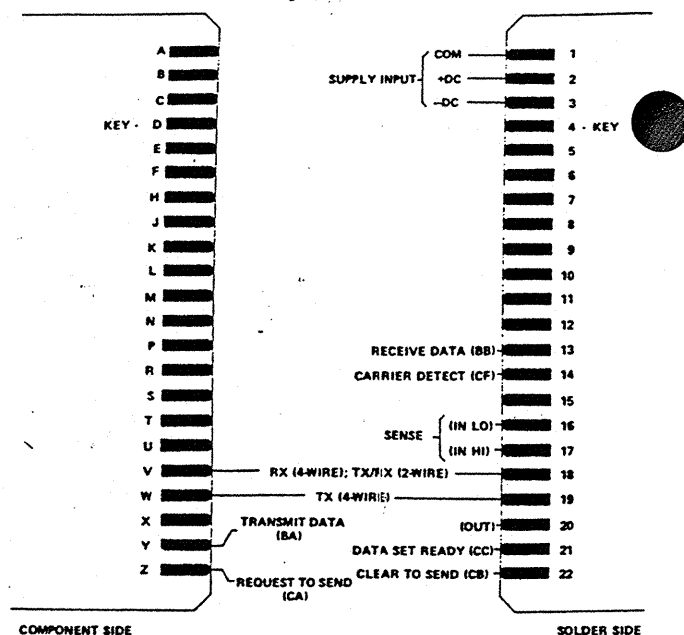

Figure 2. Edge Connector Terminal Assignments, Series 6385A Frequency-Shift Modems.
Series 6385A modems require either two or three module spaces in a Model 68 Chassis, depending on model (See Specifications section of this Instruction Data sheet.) The mating connector must have a key in position 4 (D). Refer to figure 2 for interconnect wiring terminal assignments.
Two-Wire/Four-Wire Operation: Two transformers (T1 and T2) in the lower rear corner of the circuit card satisfy the connection requirements for both two-wire and four-wire communications lines. As shown in figure 2, four-wire receive connections are made to edge connector terminals V and 18, and four-wire transmit connections are made to terminals W and 19; two-wire connections are made to terminals V and 18.